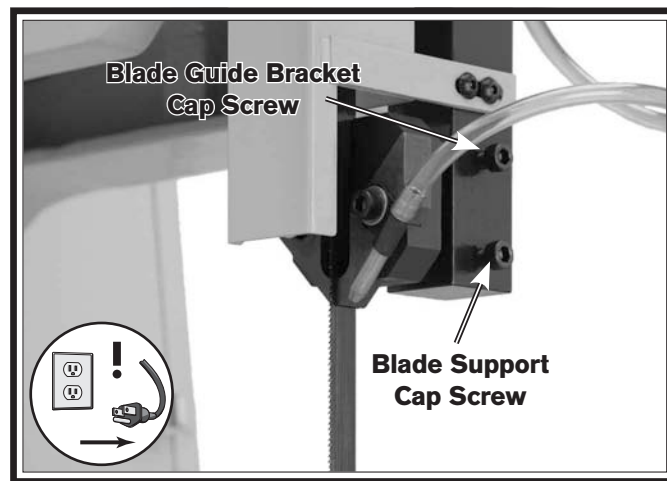

Figure 18. Upper blade guides and bracket.
4. Use a 5mm hex wrench to loosen the cap screws that secure the blade guide bracket and blade support (see Figures 18–19).